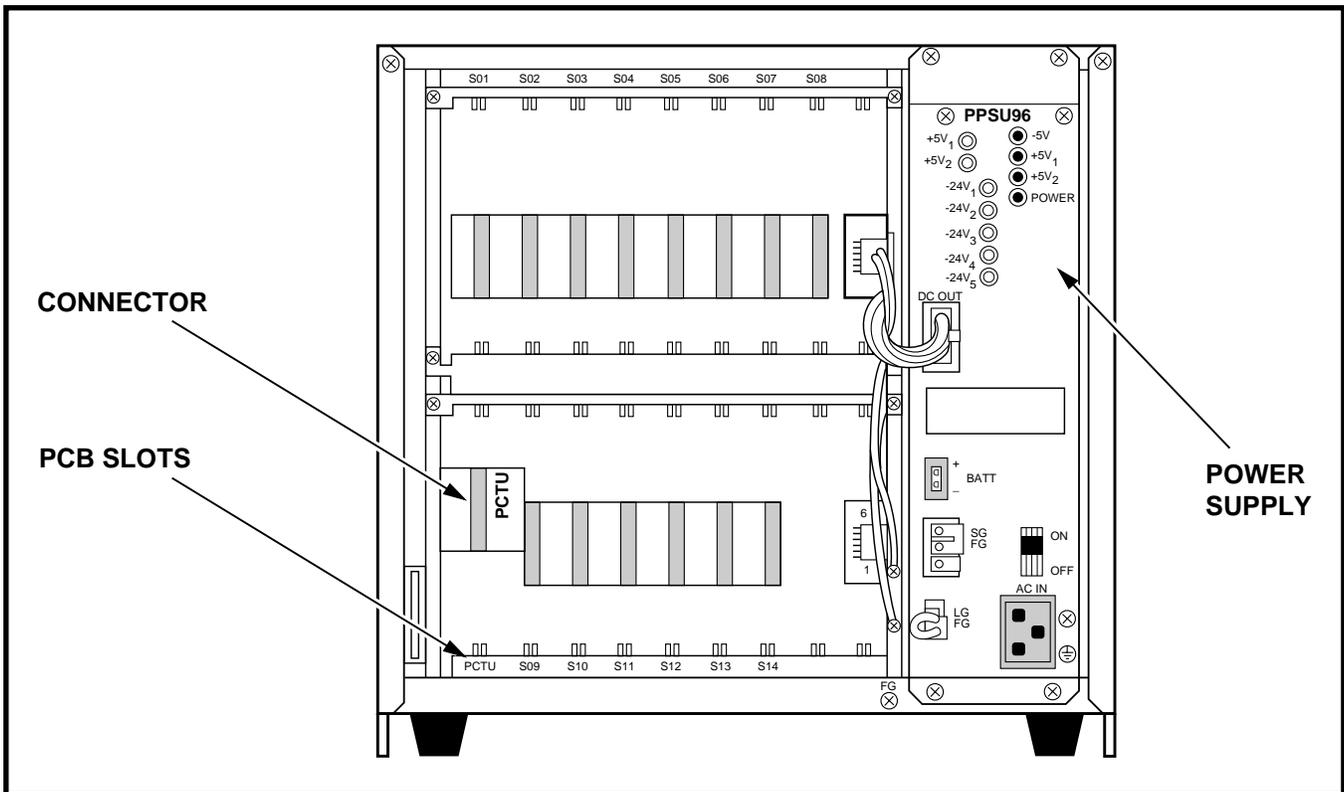

FIGURE 2-4—DK96 KSU INTERIOR
3.31 The DK96 cabinet interior has two shelves (Figure 2-4). The top shelf has eight available PCB slots labeled S01 ~ S08. The bottom shelf has seven available PCB slots labeled PCTU and S09 ~ S14. Only the PCTU slot serves a dedicated function.